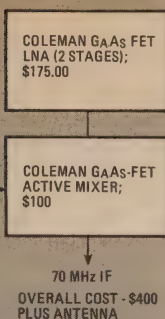

FIG. 2—TWO DESIGN APPROACHES to receiving satellite broadcasts. The Birkill approach is shown in option 1 while the Coleman approach is shown in option 2.
Let's stop for a minute and study Fig. 2. To appreciate what is involved in a satellite television receiver, we ought to understand what it has to do.
Back now to Fig. 2. To keep unwanted energy out of the receiver (and there is plenty of unwanted or off-frequency energy floating around microwaves these days) the typical commercial receiver has a pre-selector (either totally passive or active plus passive) at the input. This is followed by a "high frequency-mixer" that combines the incoming (3.7 to 4.2 GHz) signals with a local oscillator signal source generated within the receiver to produce a new lower frequency (IF) output. Gain is
FIG. 2—MOST COMMERCIAL RECEIVERS use high-gain (50 dB) LNA's mounted at the antenna capable of driving 4-GHz region signals through several hundred feet of 7/8ths inch line to the indoor receiver. Typical receiver has either double conversion (approach shown here) or single conversion directly to IF. In receiver design shown, a 3.7- to 4.2-GHz preselector often has enough gain to bring the input RF level up to an adequate voltage to drive the first mixer. Relatively high-level high-frequency local oscillator (3.2 GHz is shown in example) may measure +10 dBm or more. With local oscillator on low side, high IF of 500-1,000 MHz is attained to drive second mixer that down converts to 70-MHz low IF. Oscillator for second local oscillator is voltage- or capacitive-tuned to produce 70-MHz low IF with inputs over full 500-1,000 MHz range. FM demodulator (discriminator) produces basic baseband signal that processes up for video to a de-emphasis circuit and video amp, then to a video clamp to eliminate the 30-Hz energy dispersal waveform, and then to a filter circuit. Audio processes down through separate (6.8 MHz) discriminator, de-emphasis network and audio amplifier.
Electronic gain is least expensive to come by at the lowest frequency to be used in the RF portion (the 70 MHz IF) but unfortunately we cannot place all of the gain here. Some gain must go at 4 GHz as well. In Fig. 2 we see two options open to us.
2. In option one (Fig. 2) we could build a four-stage bipolar LNA (the so-called Birkill HXTR series LNA named after its developer Steve Birkill), follow this with a state-of-the-art doubly-balanced (passive) mixer such as the VARI-L DBM 500 4 GHz to 70 MHz (IF) package, and end up at 70 MHz with a total cost to that point of \$675 including the antenna.
3. In option two (Fig. 2) we can build a two-stage Coleman GaAs-FET LNA and follow this with a single-stage Coleman GaAs-FET active mixer, again ending up at a 70 MHz IF for a total material cost of \$700 including the antenna.